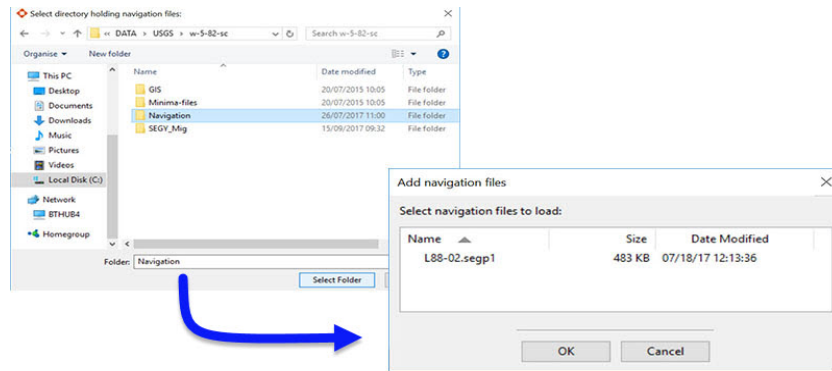

Figure 3-4 Navigation file selection
1. Click on Data on the top menu bar and select **Add navigation files** from the drop down selection. A *select directory holding navigation files* box will pop up. Navigate to the directory where your navigation data is located. **Select folder**. An add navigation files box will popup showing possible navigation files (Figure 3-4).